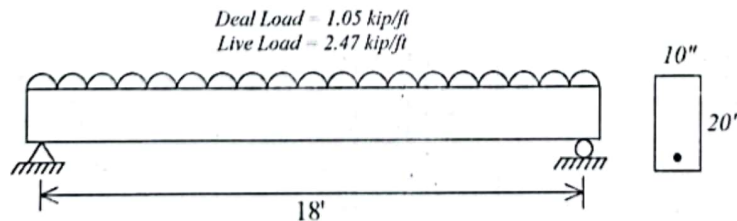

Fig. 3
3. A simply supported beam as shown in Fig. 3 is subjected to an unfactored dead load of 1.05 kip/ft (excluding self-weight) and an unfactored live load of 2.47 kip/ft. (30) 2